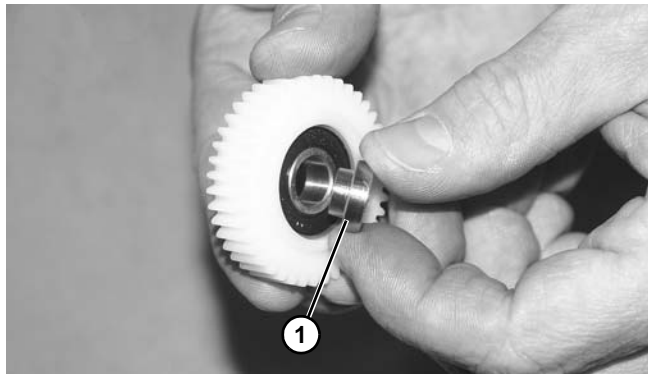

Figure 51
5. Remove spacer (Figure 51, item 1) from idler gear.